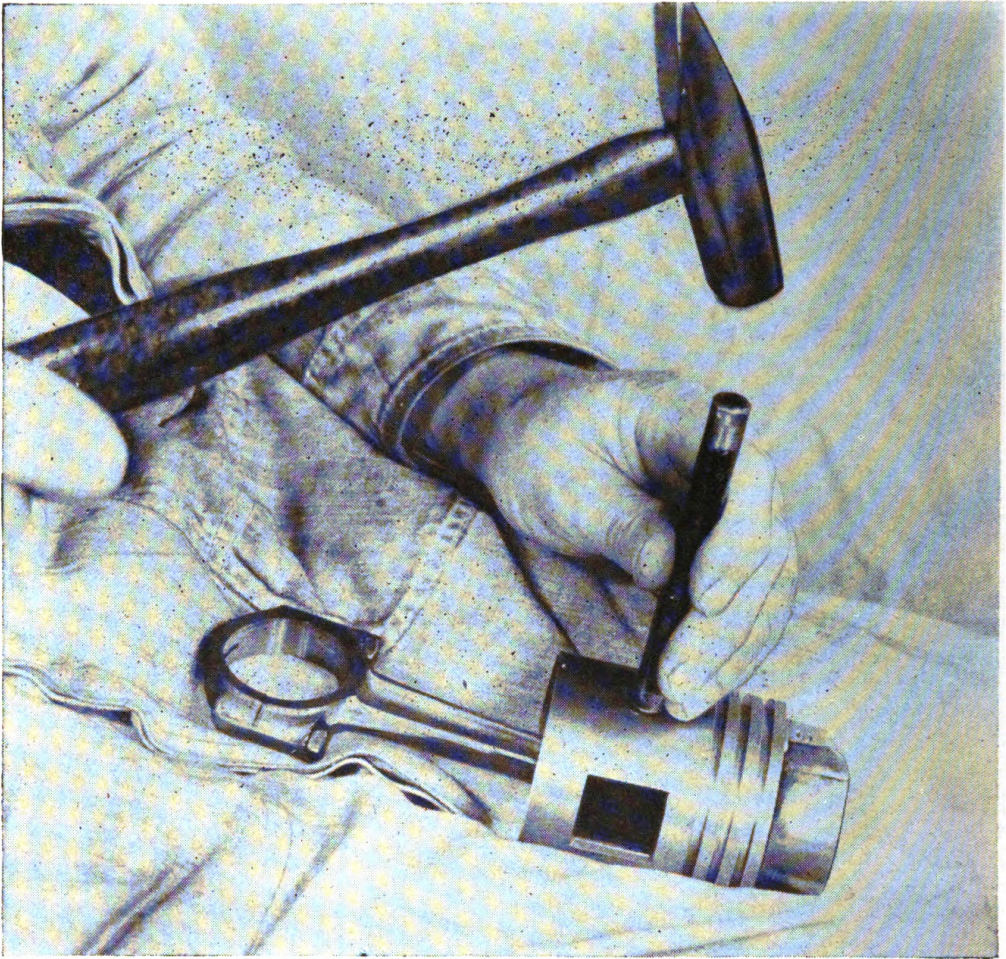

Figure 106. Removing wrist pin from piston, using drive punch and hammer.
(11) If necessary to install a new piston it must be removed from the connecting-rod assembly. The wrist pin is held fast in piston by a setscrew made secure by a lock washer and lock nut. Loosen lock nut and remove setscrew. Wrist pin then can be driven out. This is done by placing assembly between the knees when sitting to prevent springing piston as driving force is applied. (See fig. 106.) Drive from side of piston containing wrist-pin setscrew and lock nut. If fit is snug, hold piston in hot water to expand.
(12) In installing new piston, note hole in wrist pin and threaded hole in wrist-pin boss. Insert wrist pin through opposite hole in piston, the end of pin with hole entering first. Drive pin home. Hole in wrist pin